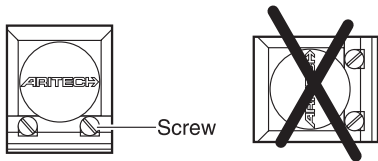

Fig. 1. Sensor head
3. Orientate the sensor module so that the ARITECH logo is up-right and in the readable position (fig. 1).
5. Ensure that the screws of the sensor module (fig. 1) are secure.